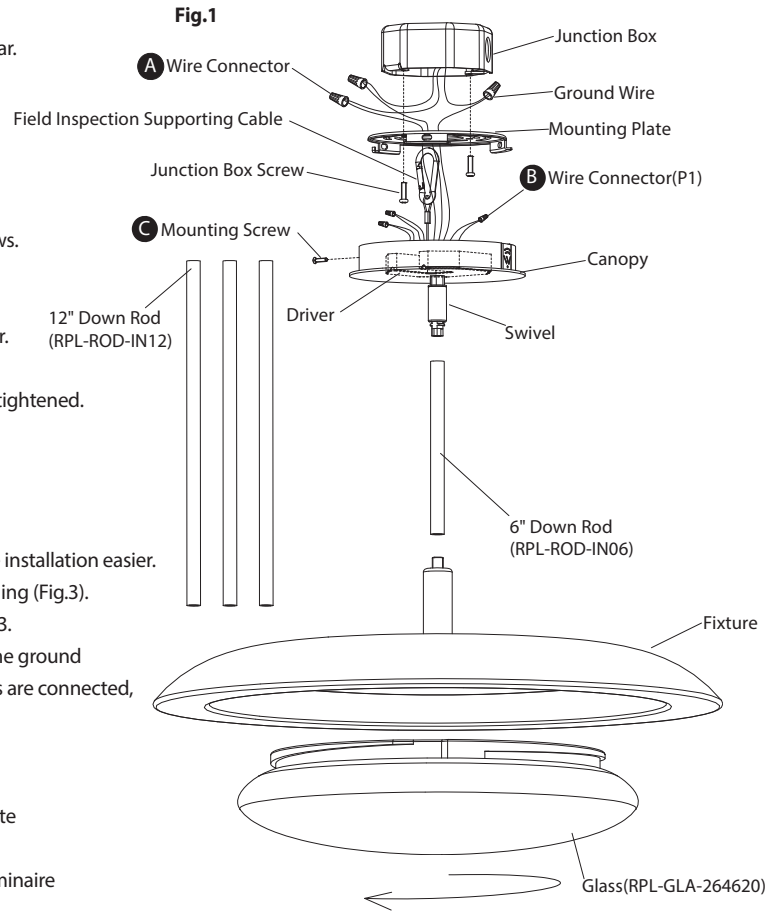

Fig.2
### WIRING FIXTURE (Fig.2, Fig.3)
9. Connect the driver's input/output wires to junction box wires as shown in Fig.2/Fig.3.